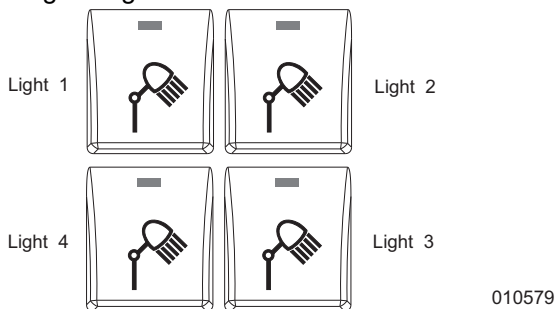

Figure 3-25. Light Fixture ON-OFF Buttons
2. See Figure 3-25. Switch OFF (O) lights by pressing the light ON-OFF buttons.